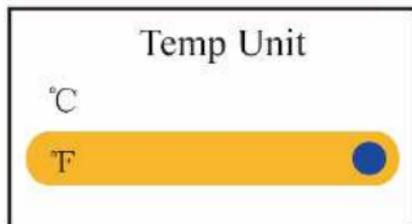

Figure 4.10I TEMP unit setup
- **Factory Default:** Enter into the factory default setting, as shown in figure 4.10I.